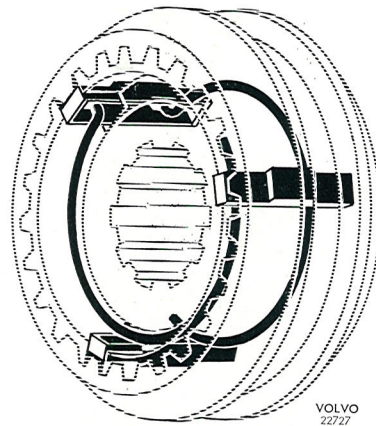

Fig. 4-35. Assembling the synchronizer
3. Fit the parts for the 1st and 2nd synchronizer on the mainshaft. Fit the snap rings correctly, see Fig. 4-35.
6. Fit the thrust washer, 3rd speed gear wheel and synchronizing cone on the shaft. Assemble the 3rd and 4th speed synchronizing parts. Fit the snap rings correctly, see Fig. 4-35. Then fit the synchronizer on the main shaft. Select a locking ring of the correct thickness and fit it.